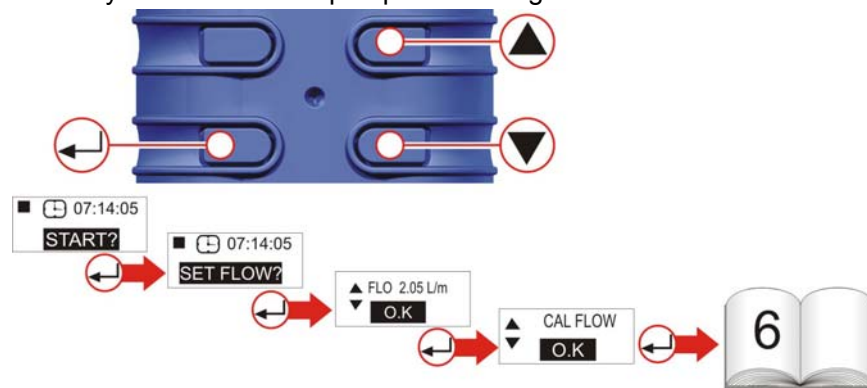

Figure 12 Calibration Screens
I. SET REQUIRED FLOW RATE (Fig. 12)